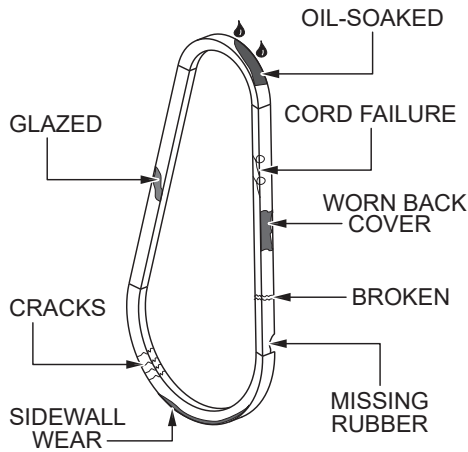

Figure 30. V-Belt Inspection
1. Inspect the V-belt (Figure 30) to determine if it is frayed, peeling, full of tiny cracks, has pieces of rubber missing, or is otherwise damaged.
2. Inspect the V-belt (Figure 30) to determine if it is oil-soaked or *glazed* (a hard, shiny appearance on the sides of the belt). Either of these conditions can cause overheating of the belt, which may weaken the belt and increase the possibility of it breaking.